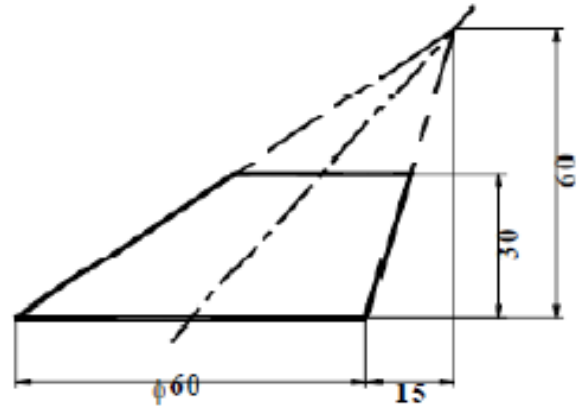

Figure Q3
- (a) The front view of an oblique truncated cone is shown in Figure Q3. Copy the view and draw the plan. From the views drawn, construct the surface development of the cone taking the seam line to be along the shorter length of the slanting sides of the cone.